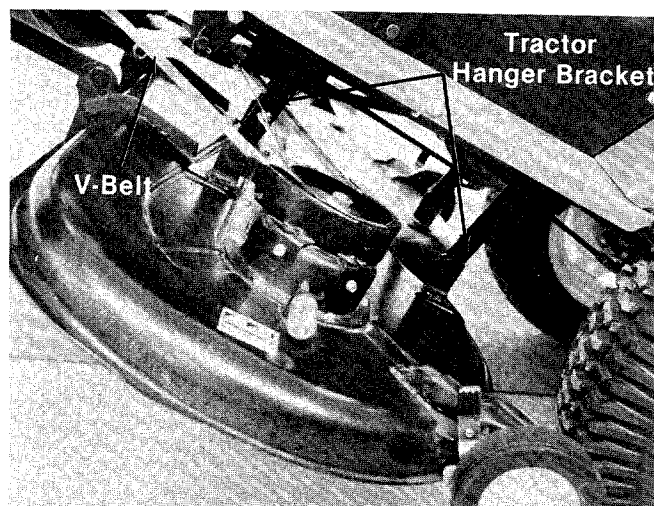

FIGURE 6.
- Attach the four tractor hanger brackets to the deck with four 1/2" I.D. washers and four medium cotter hairpins. (See figure 6.)